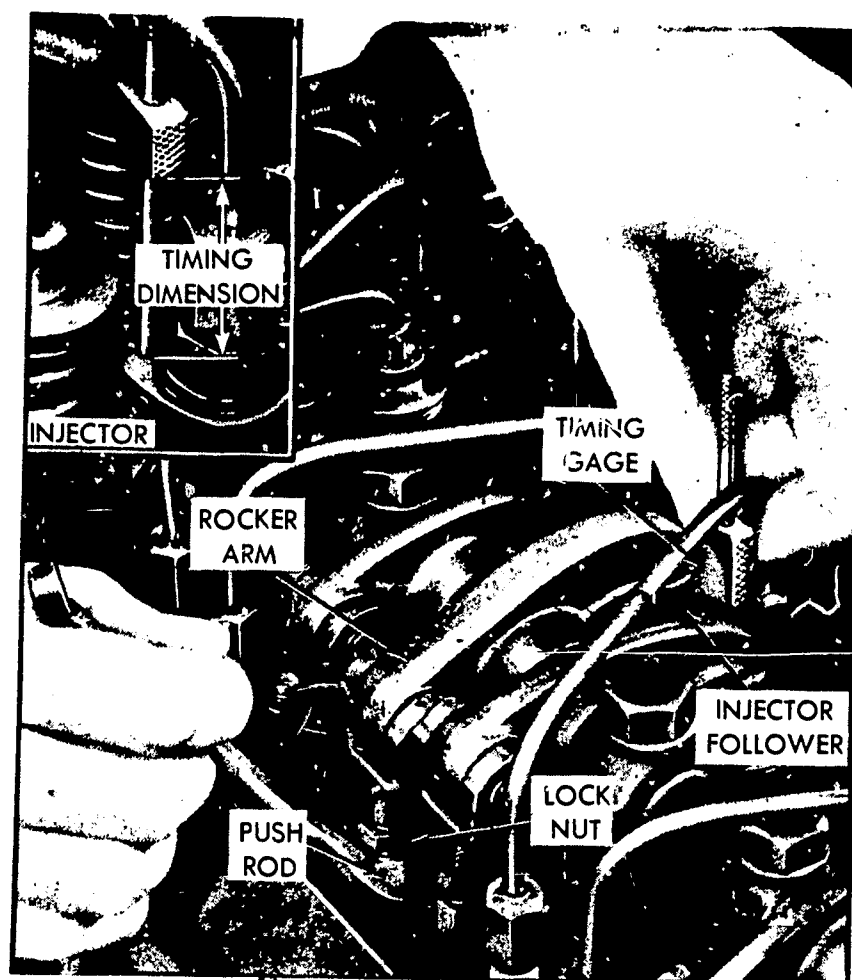

Fig. 11 Timing fuel injectors.
3. Place the small end of the injector timing gage in the hole provided in the top of the injector body, with the flat of the gage toward the injector follower (See Figure 11).